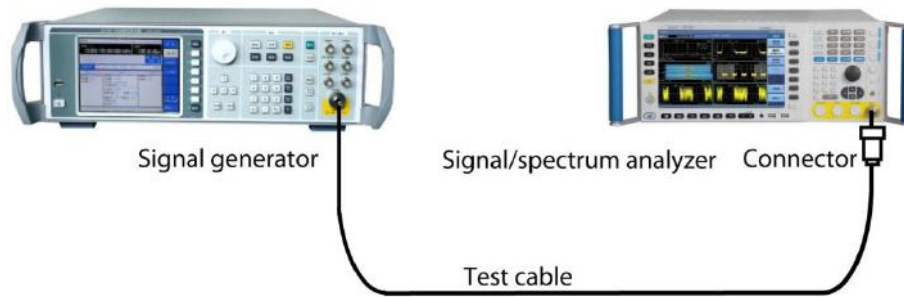

Fig. 4.82 Connection Settings of Spectral Emission Mask Measurements
Step 2. Connect the radio frequency output port of the signal source to that of the analyzer. As shown in Fig. 4.82: